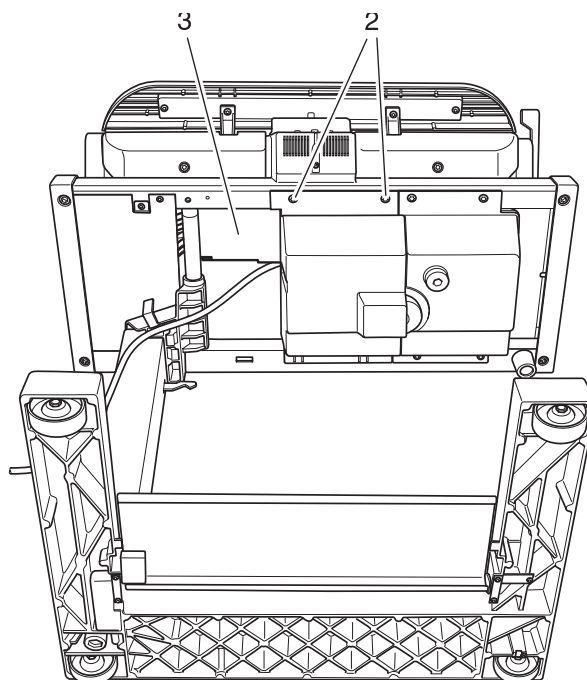

Fig. 15a
- Lay the steam ironer face-up on the floor (fig. 15a).